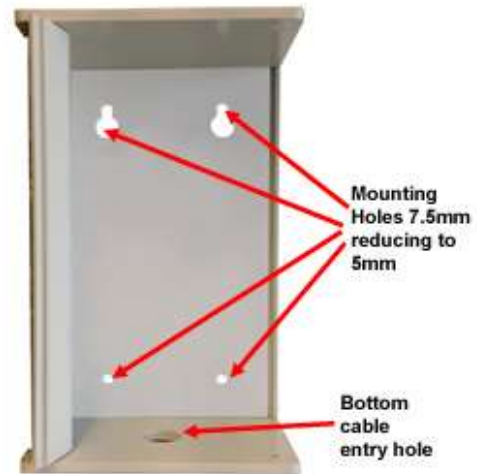

Figure 1:- Inside the Case
1.2 SENSOR UNIT DESCRIPTION. Refer to Figure 1.
The hole positions are shown in Figure 1.
These buttons may be used to initiate Auto-Zero, Auto-Span and cancel any latched concentration alarms. The “**Internal Control Button**” (see Figure 1 for location) will perform all the above functions. However, the “**External Control Button**” will only allow any concentration alarms to be reset unless fully activated at the factory.